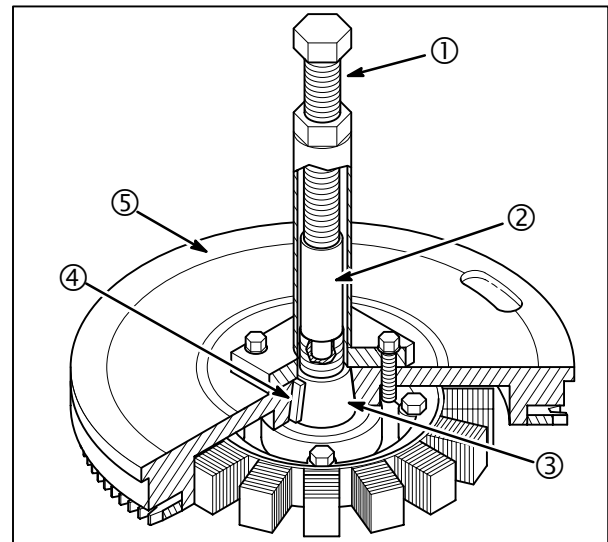

Fig. 19
1. With pilot (2) installed to the crankshaft (3), place the flywheel with puller attached, onto the pilot, **Fig. 19**.
2. Align the flywheel keyway mark with the crankshaft key (4). Slowly loosen the flywheel puller screw (1) to lower the flywheel (5) into position over the stator. Be certain that the crankshaft key engages the flywheel keyway.